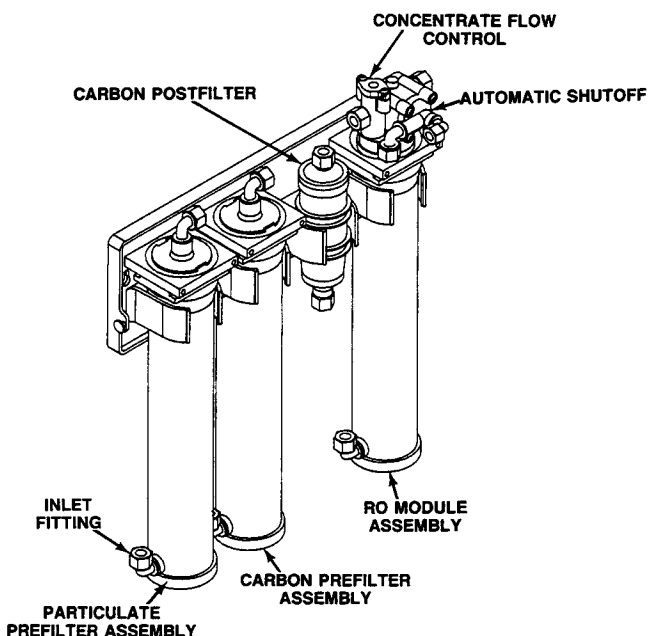

FIG. 1
The drinking water system is shipped from the factory in two cartons. One contains the Culligan® dispenser faucet, the complete filter system assembly, including the particulate and carbon prefilter assemblies, the RO module assembly, the carbon postfilter, and the mounting bracket. The other carton contains the reservoir tank and valve (Figures 1, 2, 3, 4, 5).
- Filtration Assembly Carton (Fig. 1)